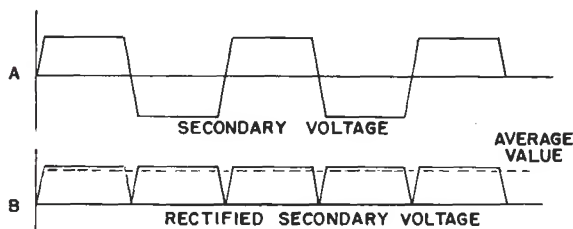

Figure 2
This action produces the effect of square-wave a-c excitation of the primary circuit—which of course is carried over to the secondary. See Figure 2 (A). Capacitor C in Figure 1 absorbs the inductive kick which occurs when the current flow is reversed. (If not suppressed, this kick would put "spikes" on the edges of the square wave, produce high surge currents through the rectifiers and cause sparking at the vibrator contacts.)